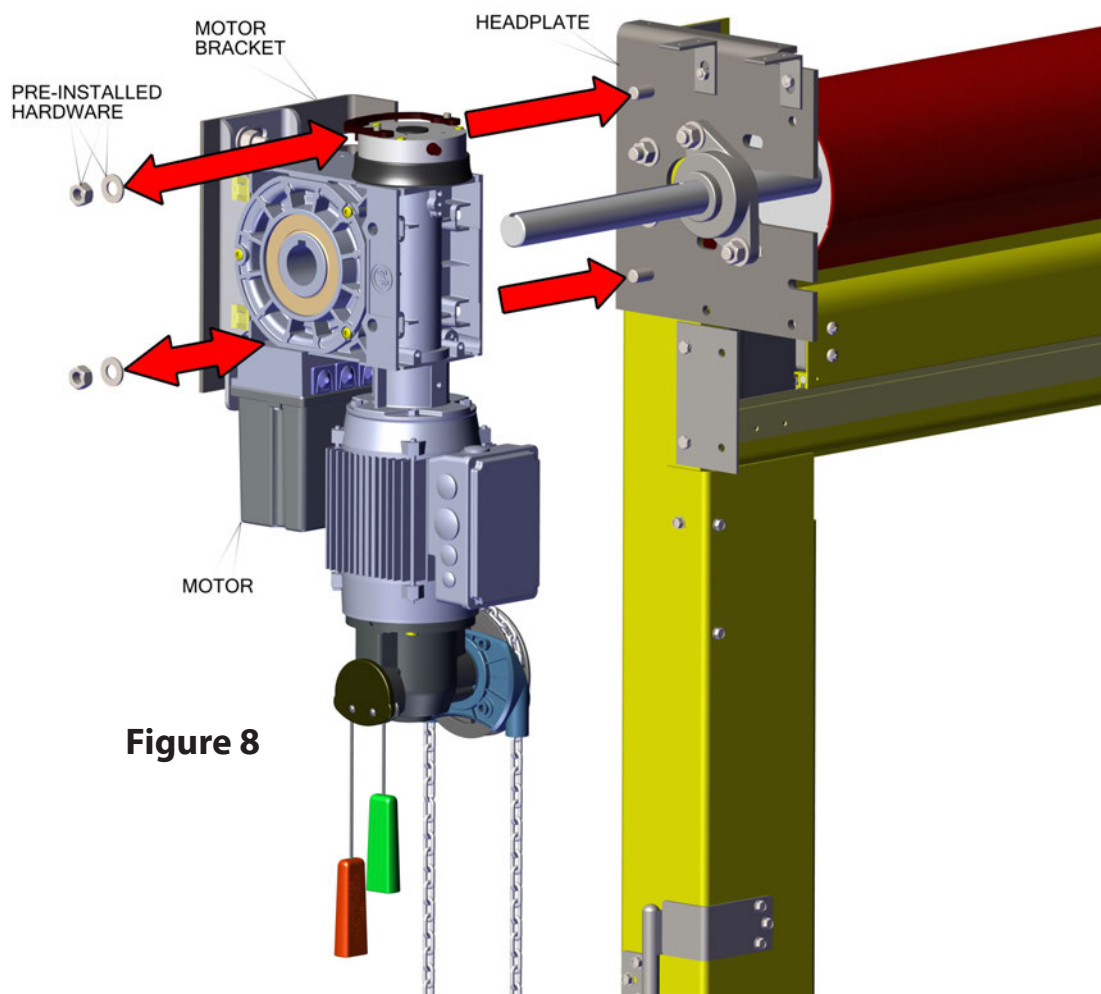

Figure 8
- Remove the pre-installed nuts and washers from headplates, as shown in Figure 8. ONLY remove the nuts and washers from the two bolts, as shown in Figure 8.
- Slide motor onto shaft, as shown in Figure 8.
- Install wiring per wiring diagram FIG 8-J page 36.